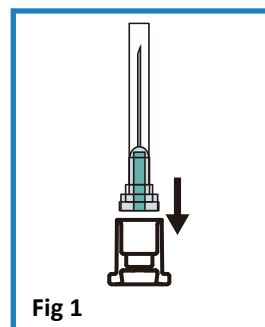
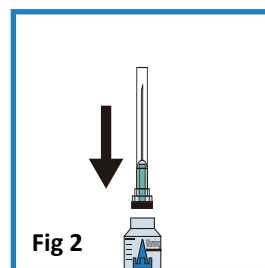
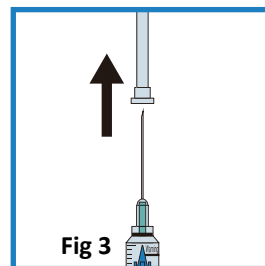

Fig 1
Fig 2
Fig 3
1. Peel off the package and remove the end cap for needle hub from the needle (Fig1). Put the needle onto the syringe (Fig 2). The needle has to be put on in place. Take off the protecting cap (Fig 3). (If the needle has been placed on the syringe, peel off the package and take off the protecting cap.)